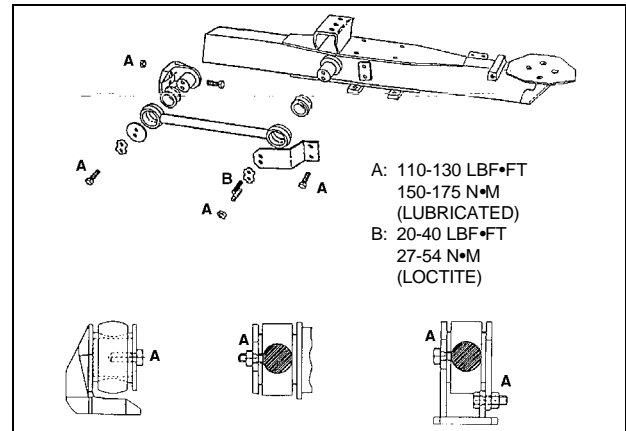

FIGURE 9: RADIUS ROD INSTALLATION
1. Lightly Spray the anchor pin with water. Place the radius rod end over the anchor pin (Fig. 9).